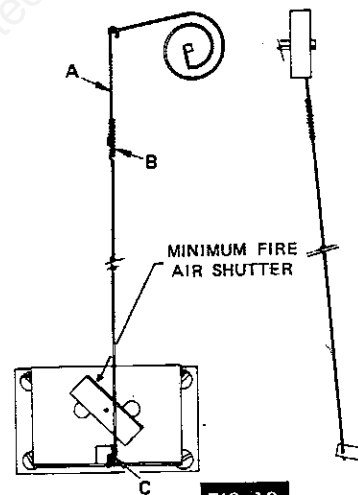

FIG. 10
The rate of burning at the low setting can be further adjusted by opening or closing the minimum fire air shutter (Fig. 10) on the draft control door.
- A. To increase the amount of heat at a "HIGH" setting, adjust the wire linkage to increase the draft damper opening (Fig. 10).